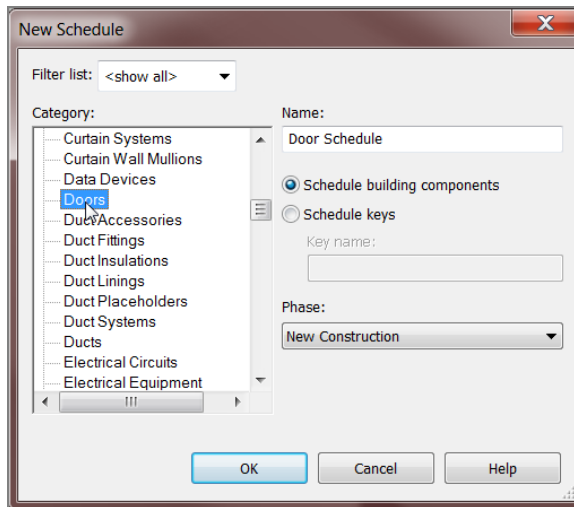

FIGURE 11.2: Select Doors, and then click OK.
3. The next dialog box, as shown in Figure 11.2, allows you to choose which item you would like to schedule. Select Doors, and click OK.